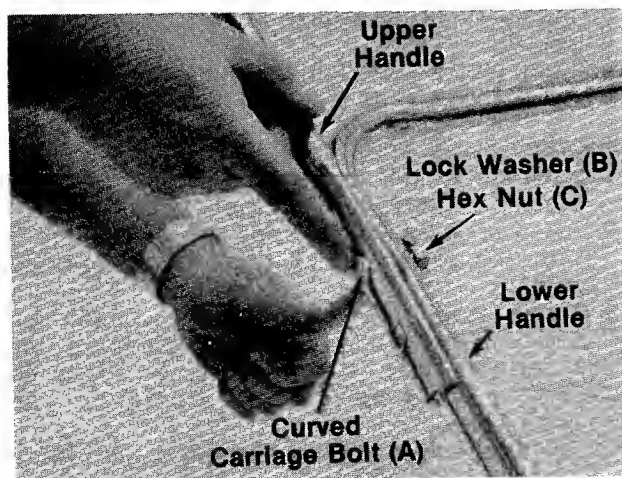
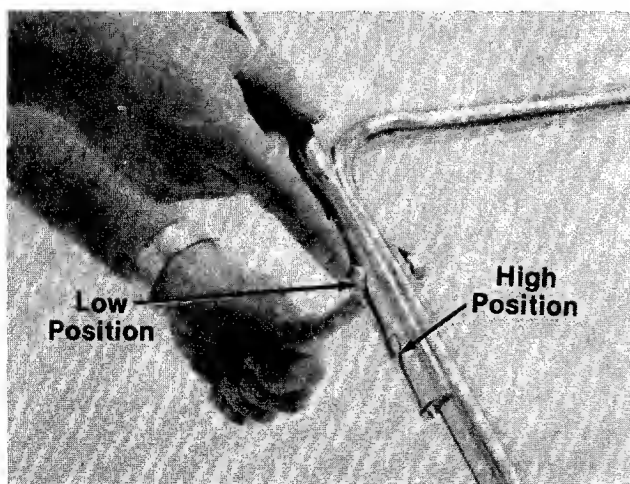

FIGURE 3.
FIGURE 9.
- ← 4. There are two height positions for the handle. Place upper handle in position over lower handle, selecting hole for either high or low position. See figure 9. Secure with two curved head bolts (A), lock washers (B) and hex nuts (C) as shown in figure 3. Tighten securely using a 1/2" wrench.
The upper handle can be adjusted to a high or low position. The adjustment is made by removing the hex nuts, lock washers and curved head bolts and reassembling in the other position. A ½" wrench is required. See figure 9.